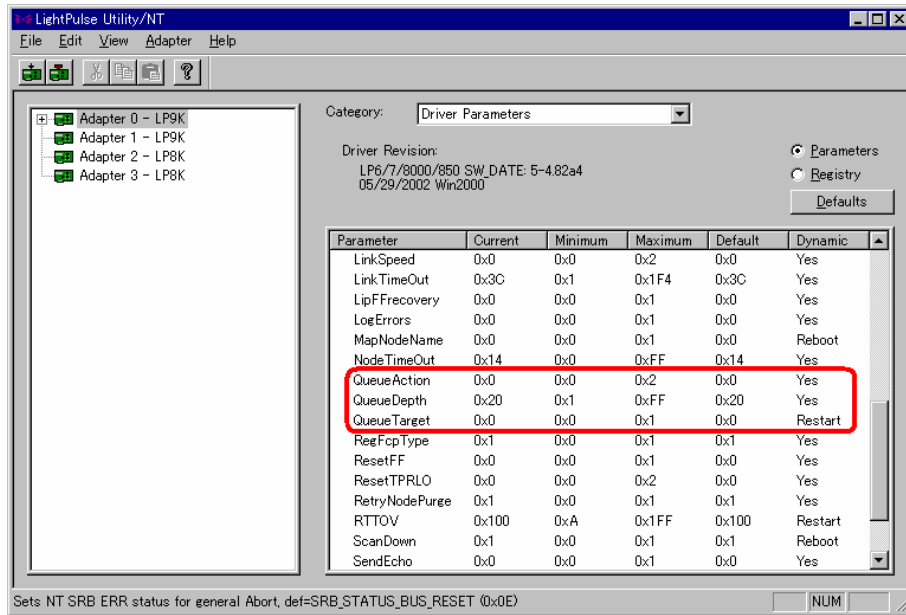

Figure C.3 Selecting the Queue Depth
4. Double-click the Queue Depth parameter (refer the Figure C.3).